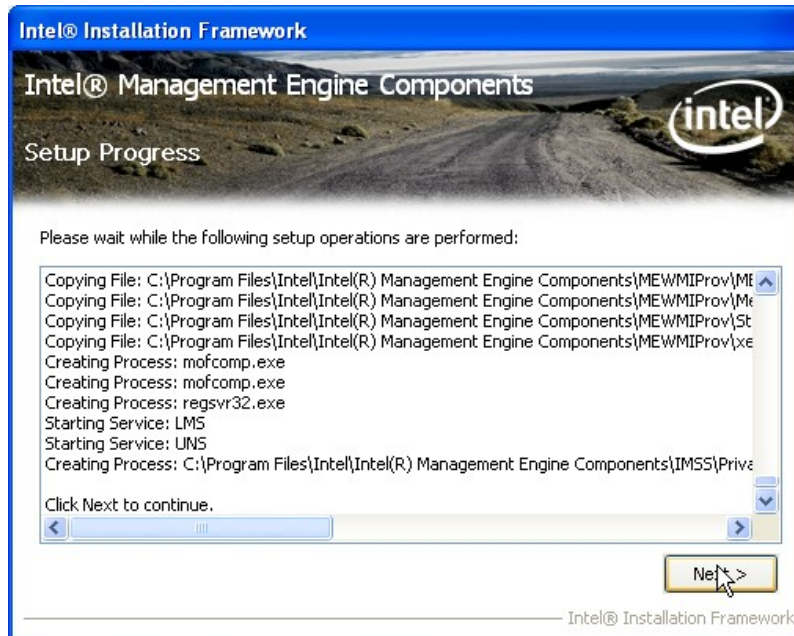

Figure 6-31: Intel® ME Driver Setup Operations
Step 12: **Setup Operations** are performed as shown in **Figure 6-31**.